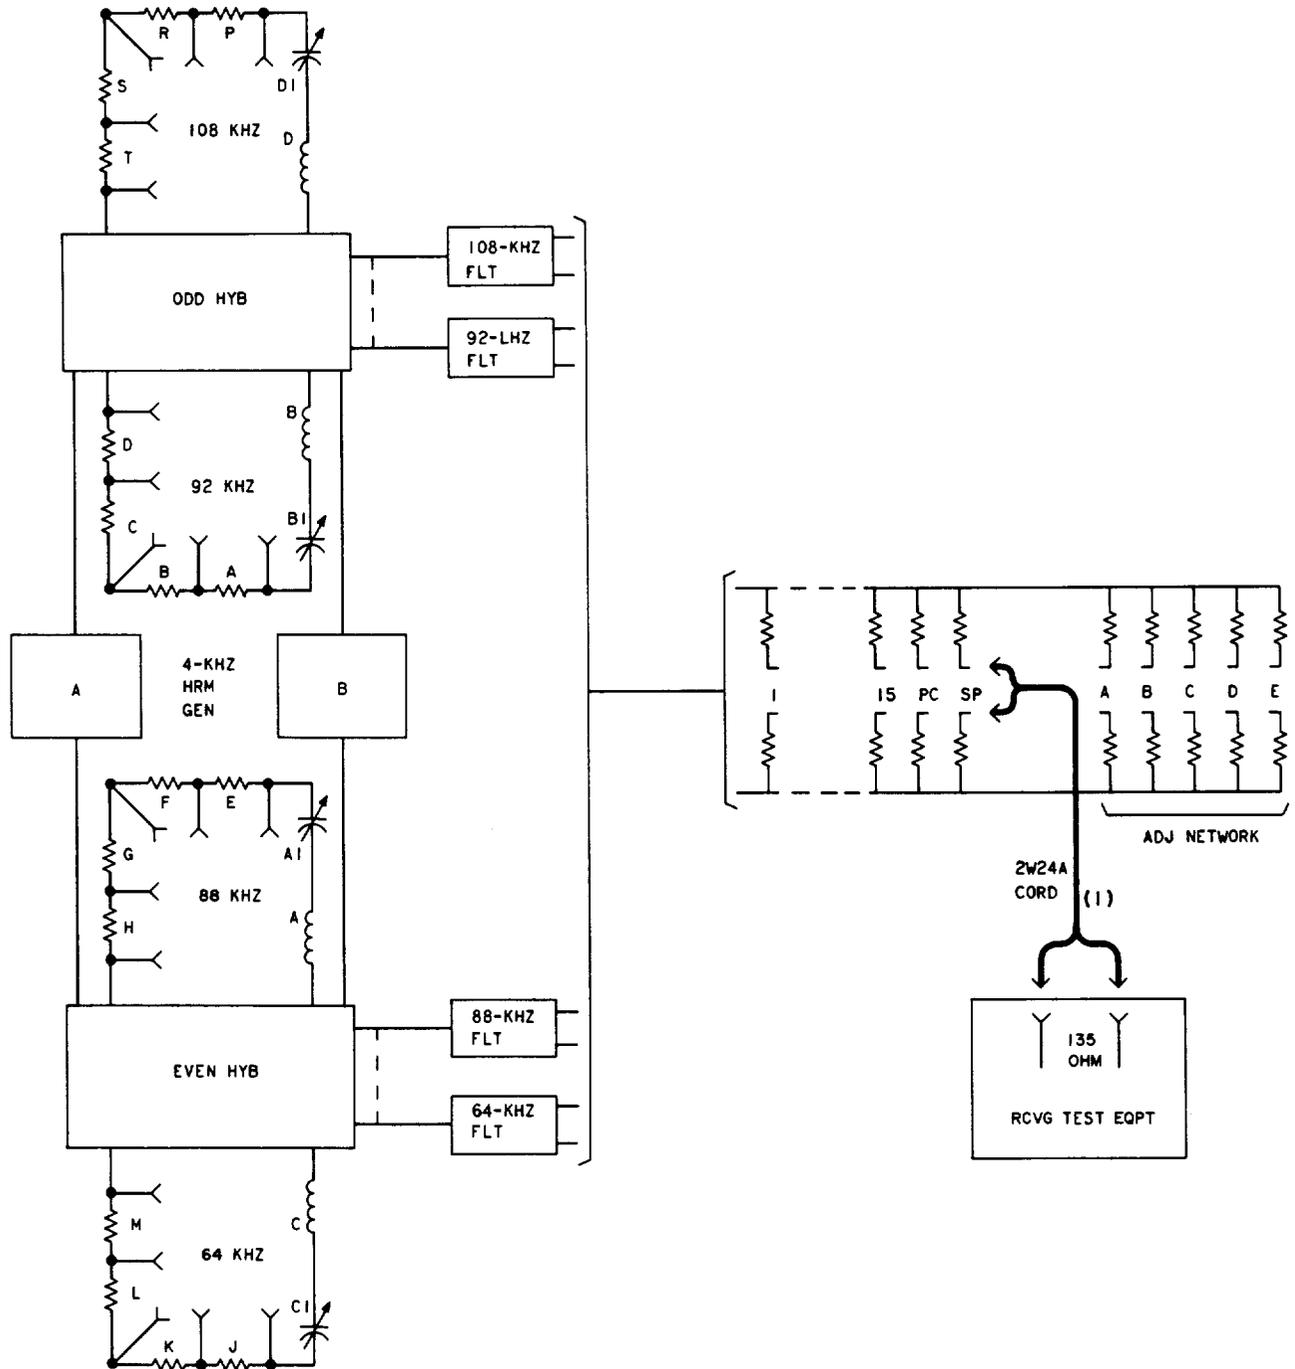

Fig. 2—Channel Carrier Distribution Circuit—Equalization of Pilot Frequencies
| 3    | Connect the RTE across the SP tap or any available unused tap of the associated distribution bus [patch (1), Fig. 2].Note: If unused taps are not available, connect the RTE across either the A, B, C, or D ADJ resistor.   |
| 12   | Remove patch (1), Fig. 2.   |